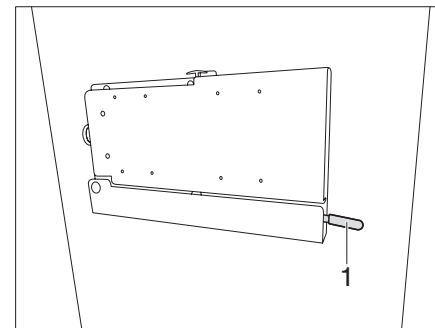

Fig. 85 Bracket with jointed arm (Variant 3)
- Pull down the lever (Fig. 85,1).
- Push the lever (Fig. 85,1) back up to lock.